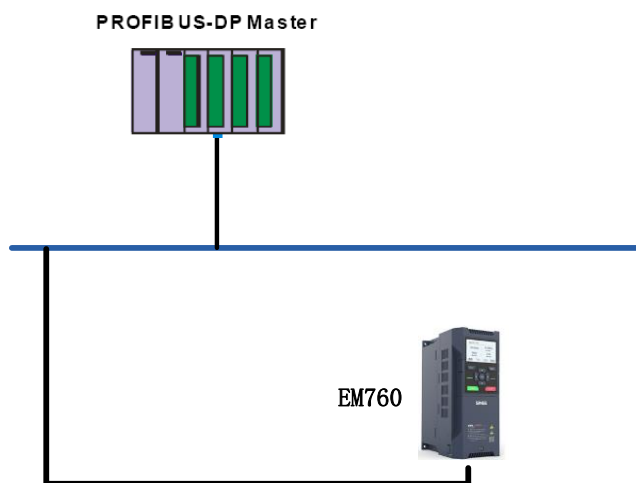

Figure 7-1
1. The schematic diagram of PROFIBUS DP network is shown in Figure 7-1.
8. After adding the GSD file of EC-CM-P1 , you can Find the EC-CM-P1 name in the right column of the window shown in Figure 7-1 2 As shown,